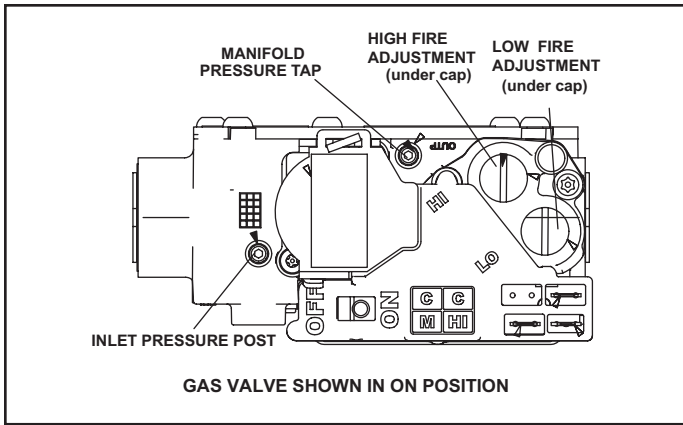
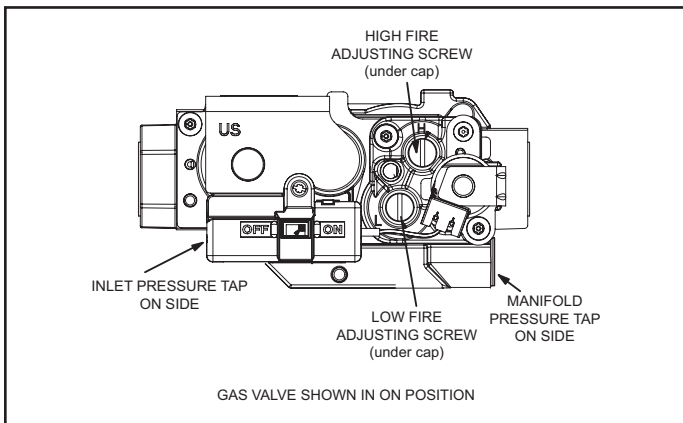

Figure 36. White Rodgers Gas Valve
Figure 37. Resideo Two-Stage Gas Valve
See Figure 36 or Figure 37
6. Move switch on gas valve to OFF. Do not force. See Figure 36 or Figure 37.
8. Move switch on gas valve to ON. Do not force. See Figure 36 or Figure 37.
An inlet post located on the gas valve provides access to the supply pressure. See Figure 36 or Figure 37. Back out the 3/32" hex screw one turn, connect a piece of 5/16" tubing and connect to a manometer to measure supply pressure. See Table 13 for supply line pressure.
A manifold pressure tap located on the gas valve provides access to the manifold pressure. See Figure 36 or Figure 37. Back out the 3/32" hex screw one turn, connect a piece of 5/16" tubing and connect to a manometer to measure manifold pressure.
1. Connect test gauge to manifold pressure tap (Figure 36 or Figure 37) gas valve.
4. If necessary, make adjustments. Figure 36 and Figure 37 show location of high fire and low fire adjustment screw.